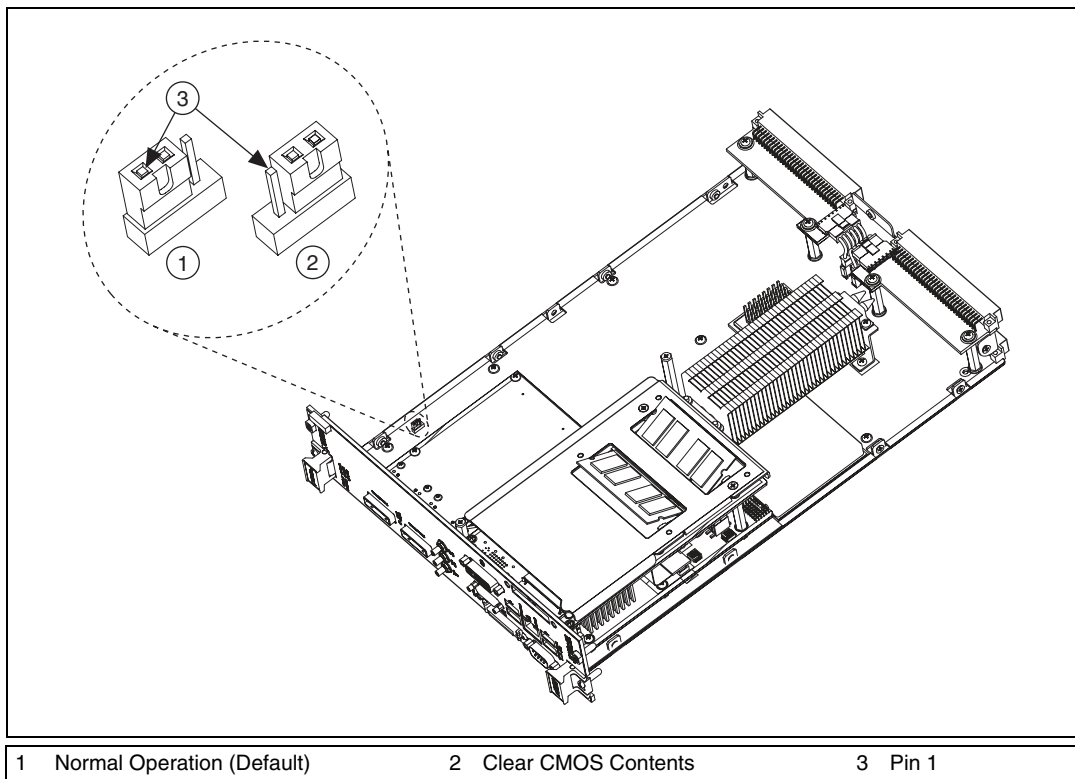

Figure 3-10. Clearing the CMOS Contents
3. Move the jumper on W1 from pins 1–2 to pins 2–3, as shown in Figure 3-10.